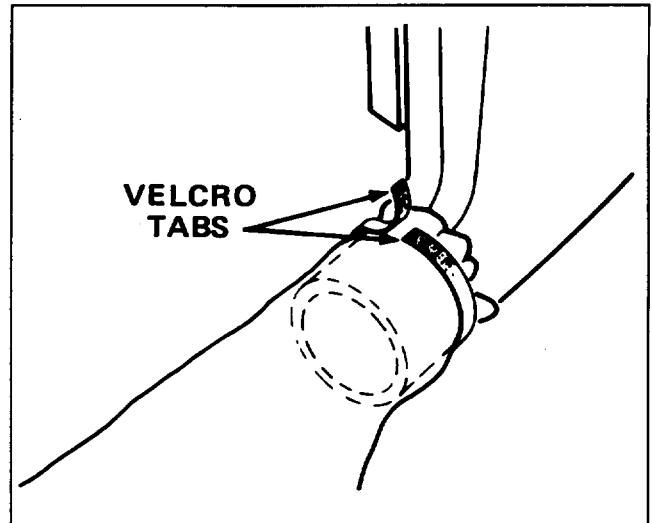

Figure 5
5. Fit opening of bag over outlet cover on blower. Pull strap tightly to overlap velcro tabs and secure behind outlet cover (Fig. 5).